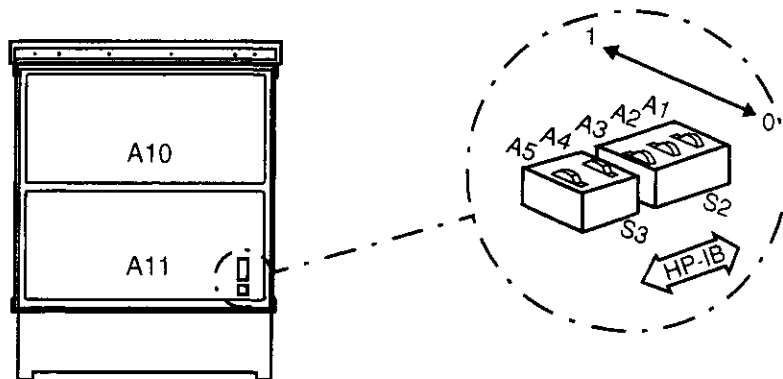

Figure 2-3. HP 8656B/8657A HP-IB Address Switch Location and Settings
- c. Locate the HP-IB address switches S2 and S3 on the All Microprocessor/Memory/HP-IB Assembly (see Figure 2-3).
- d. Use a pointed object (such as a pencil) to set the switches to the desired HP-IB address in binary (see Figure 2-3). The five switches are labeled A1 through A5, where A1 is the least significant address bit and A5 is the most significant address bit. Pressing the right-hand side of the switch (as viewed from the front of the Signal Generator) "sets" the corresponding address bit (bit = 1), while pressing the left-hand side "clears" the bit (bit = 0). Setting all of the address bits to "1" will result in an invalid HP-IB address (31 decimal). In this case, an HP-IB address of 30 (decimal) is stored in memory once the Signal Generator is powered up.